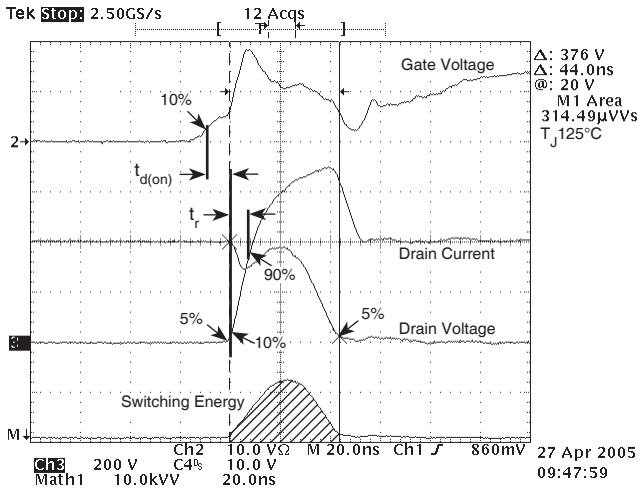

Figure 18, Turn-on Switching Waveforms and Definitions
- ① Repetitive Rating: Pulse width limited by maximum junction temperature
- ② Pulse Test: Pulse width < 380 μs, Duty Cycle < 2%
- ③ See MIL-STD-750 Method 3471
- ④ Starting TJ = +25°C, L = 13.80mH, RG = 25Ω, Peak IL = 10A
- ⑤ dv/dt numbers reflect the limitations of the test circuit rather than the device itself. IS ≤ -ID20A di/dt ≤ 700A/μs VR ≤ 480V TJ ≤ 125°C
- ⑥ Eon includes diode reverse recovery. See figures 18, 20.
- ⑦ Repetitive avalanche causes additional power losses that can be calculated as PAV = EAR\*f